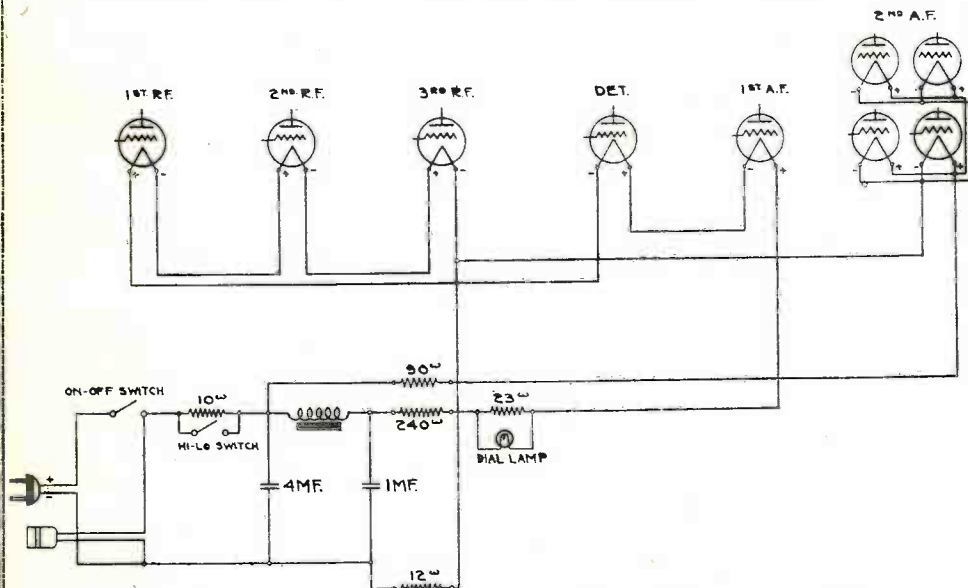
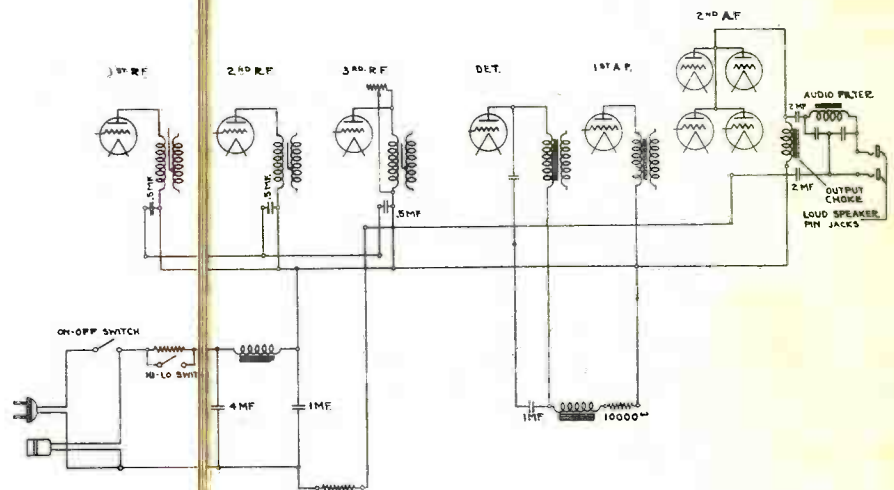
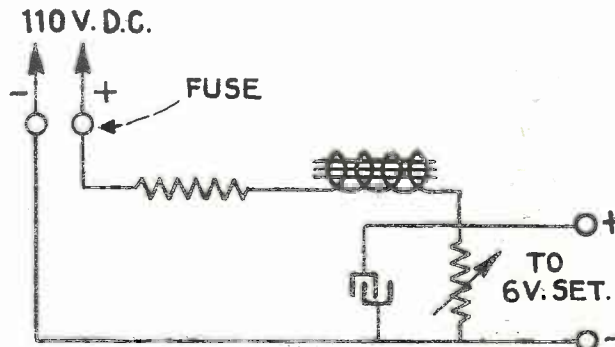

Fig. 8 - Filament Circuits of a 110V. D.C. Set.
Fig. 9 - Plate Circuits of a 110V. D.C. Set.
Fig. 22 - Circuit of 110V. D.C. "A" battery eliminator.
(14) Filament Wiring. As an illustrative example, Fig. 8 shows the filament wiring of the Stromberg-Carlson "No. 638" Art Console receiver for D.C. operation. In this receiver the first, second, and third R.F. amplifier tubes, the detector and first audio amplifier tubes, are of the '6CA type and connected in series with the pilot light and resistance; the whole being connected to the line through a filter system. The output stage consists of four type '71A tubes with filaments connected in parallel and connected across the line through a 90-ohm resistor, as shown.
(15) Testing Filament Wiring. In testing the filament circuit of the D.C. receiver, it is obvious that if one of the series filament tubes of the '6CA type in the diagram, Fig. 8, burns out, the circuit will be open and the others will go out; replacing the burnt-out tube will cause all the others to light. It is well to test the line voltage at the filament terminals to make sure that the series resistors, choke and pilot lamp are in good condition. Voltages at the set sockets can be measured with a set analyzer, but only while the set is in operating condition with all tubes lit. If the tube is burnt-out, from excessive line voltage, the "Hi-Lo" switch, shown in the diagram, should be opened, thus placing an additional 10-ohms in series with the set with consequent voltage reduction.
(16) Power Tube Filaments. The four '71A power tube filaments in this set are connected in parallel and, since they are all fed through one series resistor, if one of these tubes burns out or is removed from the socket, the voltage across the others will rise to a dangerous value and burn out all the others unless the set is immediately turned off. Therefore, it is very important to turn the set off before removing any of these tubes; furthermore, do not turn the set on again until good tubes have been placed back in the empty sockets. Chapter III gives further information of value in this connection.
(17) Plate Supply. Fig. 9 shows a schematic diagram of the plate circuits of this set. Note that all tubes are fed by the maximum line voltage (neglecting the slight voltage reduction caused by the filter choke.) A simple voltage test at the socket will indicate whether there is failure in the plate supply. If so, continuity tests across the choke, series resistor and switch, with the line-plug out, will probably locate the cause. A shorted filter condenser may cause a fuse to blow. The condensers should be tested and replaced if necessary before replacing the fuse. Further information may be found in Chapter III under D.C. "B" eliminators.
(18) A.C. Electric Sets. These sets differ from those previously described mainly in the type of tubes employed and the method of heating their filaments. The filaments in these sets are heated by means of a step-down transformer connected to the A.C. line, and it is consequently a simple matter to trace failure of any part of the filament circuits. Two methods are employed; in one, the filaments are heated by the alternating current and the grid returns find their way back to the electrical center of the filament, by means of a center-tapped resistor placed across the filament, or
(4) 110V. D.C. "A" Eliminators. These consist merely of a network of resistors designed to give the required voltage drop, together with a choke coil and condensers for filtering purposes, as indicated in Fig. 22. In some cases the tubes are wired in series, as was illustrated in Fig. 8. In this case, the current drain from the line is much less than when lighting the tubes in parallel. In the latter case (Fig. 22) an output voltage of 6-volts is usually desired; but the voltage remains at this value only when the set is turned on and all tubes lit; because the least change